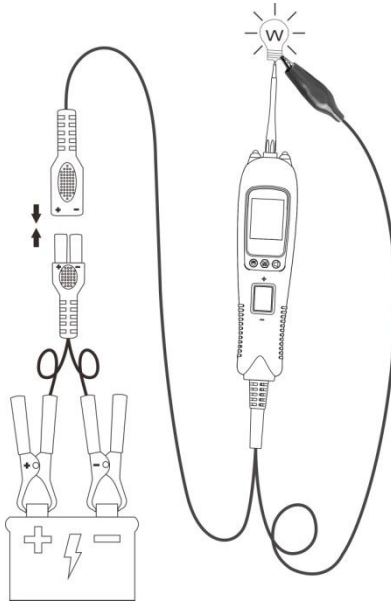

Figure 14
- 3) Press the rocker switch forward to activate the bulb.(Figure 14). Contact the tip to the positive terminal of the bulb.Connect the negative auxiliary clip. If the green LED went off at that instant or if the circuit breaker tripped, the tool has been overloaded. This could happen for the following reasons: